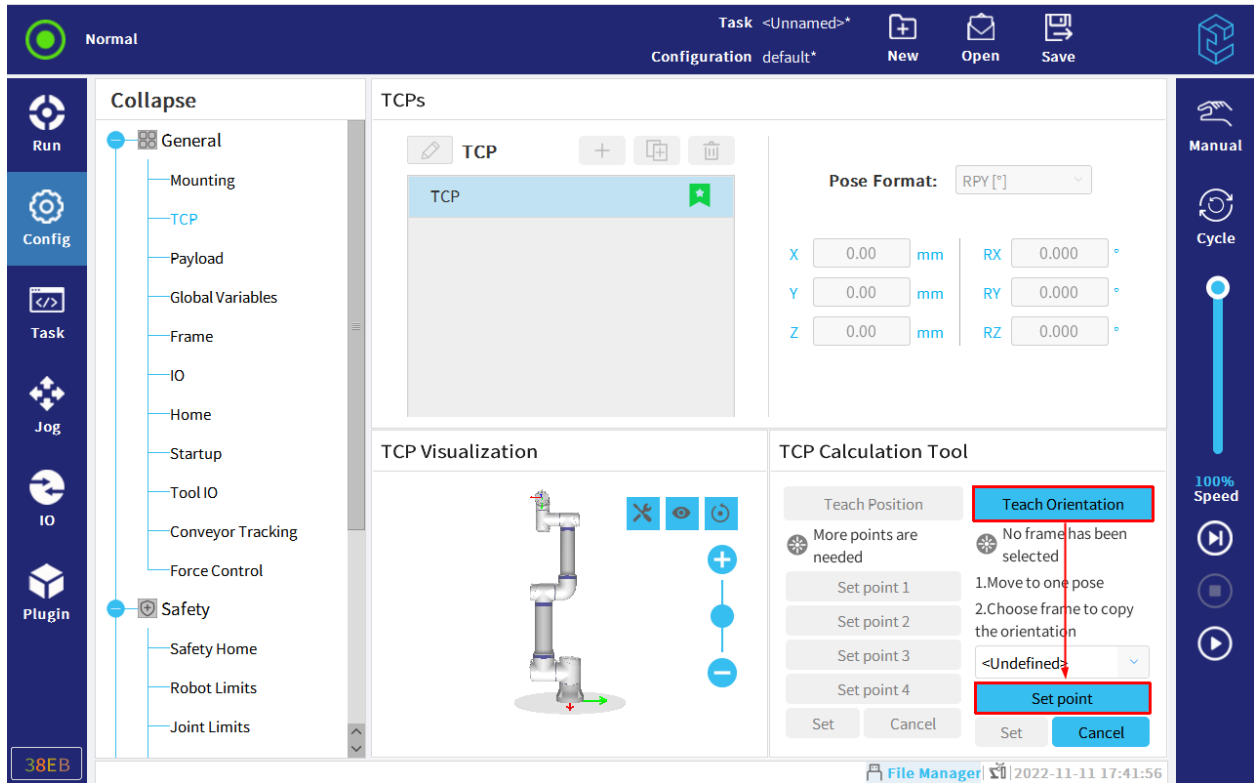

Figure 11-4 Teach Pose
1. Click "Teach Pose", as shown in Figure 11-4.